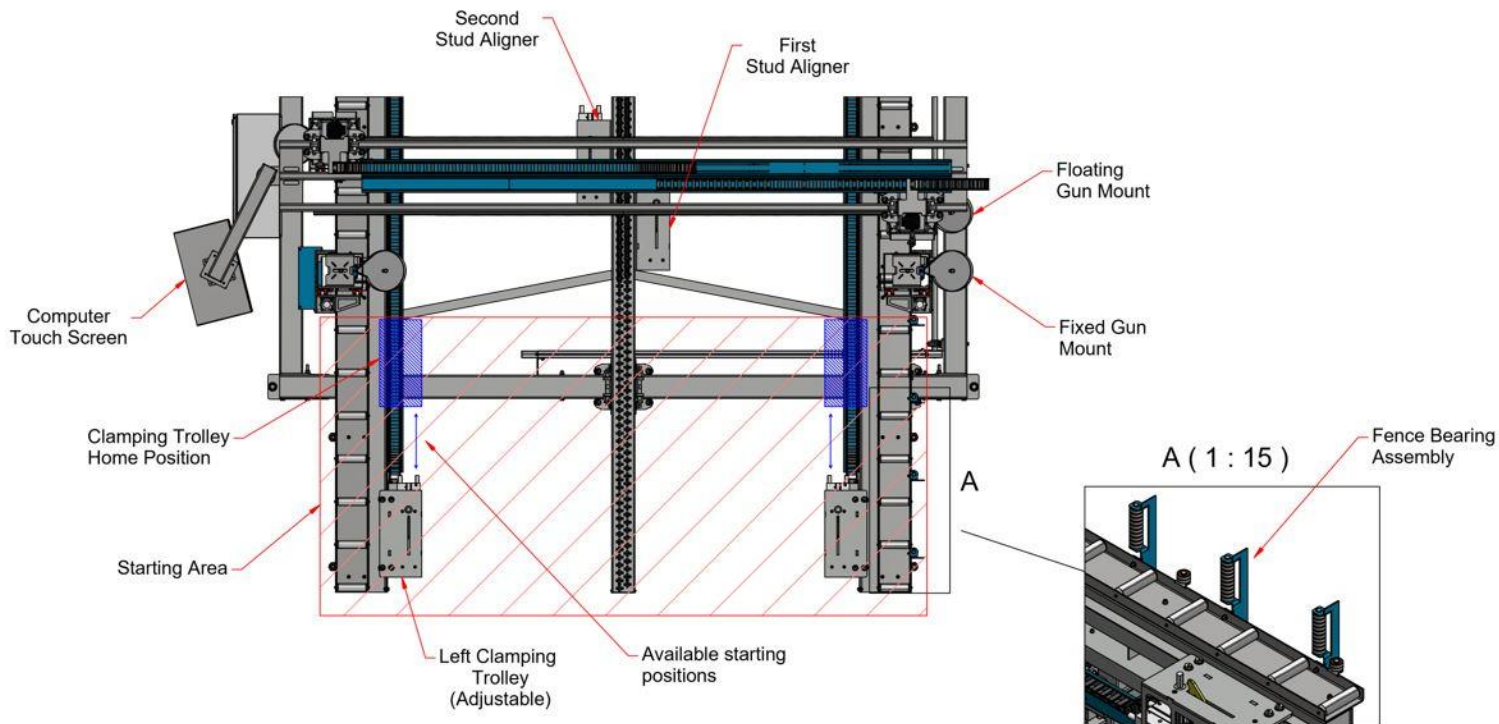

Figure 6, Clamping Trolley home position
- If the sheets need to be put on, first make sure that frame is positioned ready to go, then place the sheets by laying them on top of the frame and pushing them up against the Fence bearing assemblies (See Figure 6). In doing this, the operator can be sure that the sheets are loaded straight and in line with the frame.
Before loading the frame onto the Sheather, ensure that the Clamping trolleys are in place within the starting area of the Sheather, and have come to a complete halt. The home position of the Clamping trolleys is at the end of the starting area (see Figure 6).
- The starting area reaches from the start of the Sheather, to just before the Fixed gun mount (see Figure 6). By having a larger area of the frame available, if the first couple of studs on the frame are not appropriate to be grabbed, then other stud options are still available for the Clamping trolleys to grab and move the frame with.
The Clamping trolleys then pull the frame forward evenly, up to the second Stud aligner (see Figure 6).